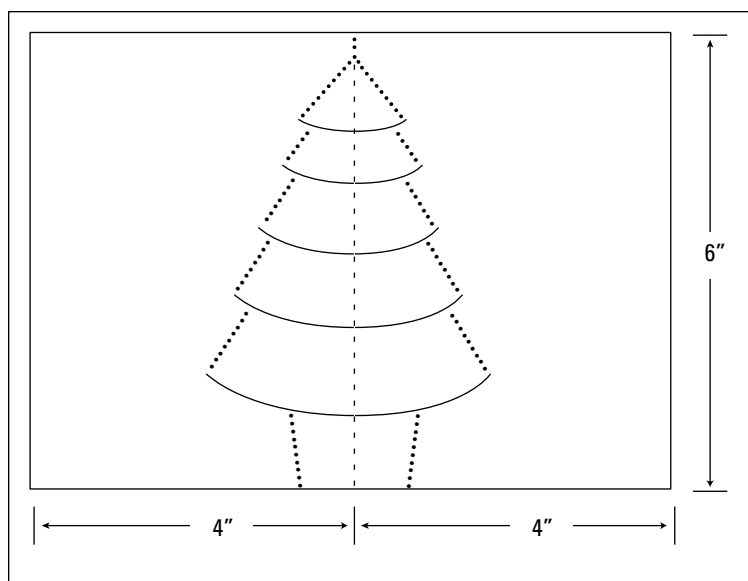

Figure 6-17:
1. Using a pencil and ruler, mark out the card as in Figure 6-17.